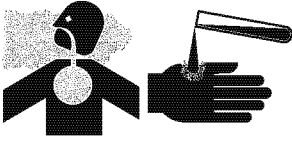

**Figure 6-10**
If the valve guides are not within specifications, use a drift pin and hammer to drive the valve guides (**Figure 6-10, (1)**) out of the cylinder head.